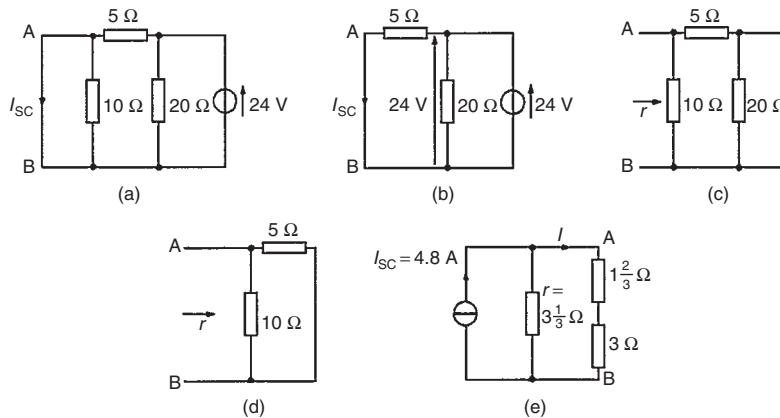

Figure 13.61
- (i) The branch containing the  $3\Omega$  resistance is short-circuited as shown in Fig. 13.61(a)
(ii) From the equivalent circuit shown in Fig. 13.61(b),
(iii) If the 24 V source of e.m.f. is removed the resistance 'looking-in' at a break made between A and B is obtained from Fig. 13.61(c) and its equivalent circuit shown in Fig. 13.61(d) and is given by:
(iv) From the Norton equivalent network shown in Fig. 13.61(e) the current in the 3 Ω resistance is given by: